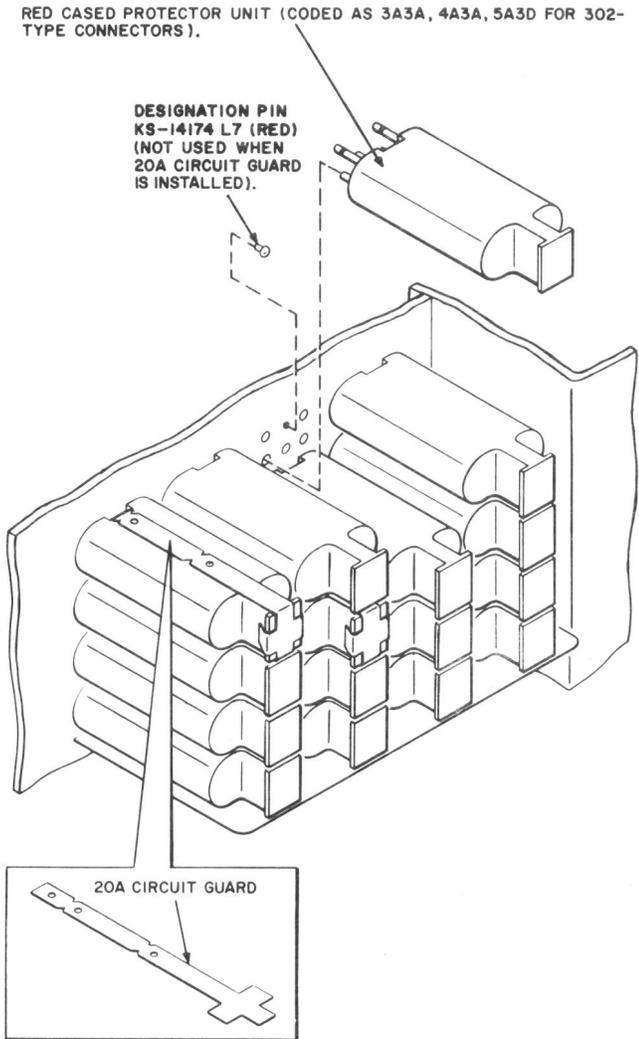

Fig. 3—Use of 20A Circuit Guard, KS-14174 Designation Pin and Red-Cased Protector Unit for 302 Connector (Installed Similarly on 308-Connector)
a special service line is designated by inserting a KS-14174, L7 designation pin (red) into the hole provided for this purpose and using a protector unit with a red case (Fig. 3). Section 201-221-102 provides information for the designation pin colors and protector unit colors to be used with different classes of special service.
4.02 *20A Circuit Guard:* The 20A circuit guard (shown installed in Fig. 3) prevents accidental removal of protector units from the protector frame connectors. It is intended to be used on circuits requiring special service protection (SSP) or special safeguarding measures (SSM) protection. The guard is designed to be used with the 3A, 4A, or 5A protector units.